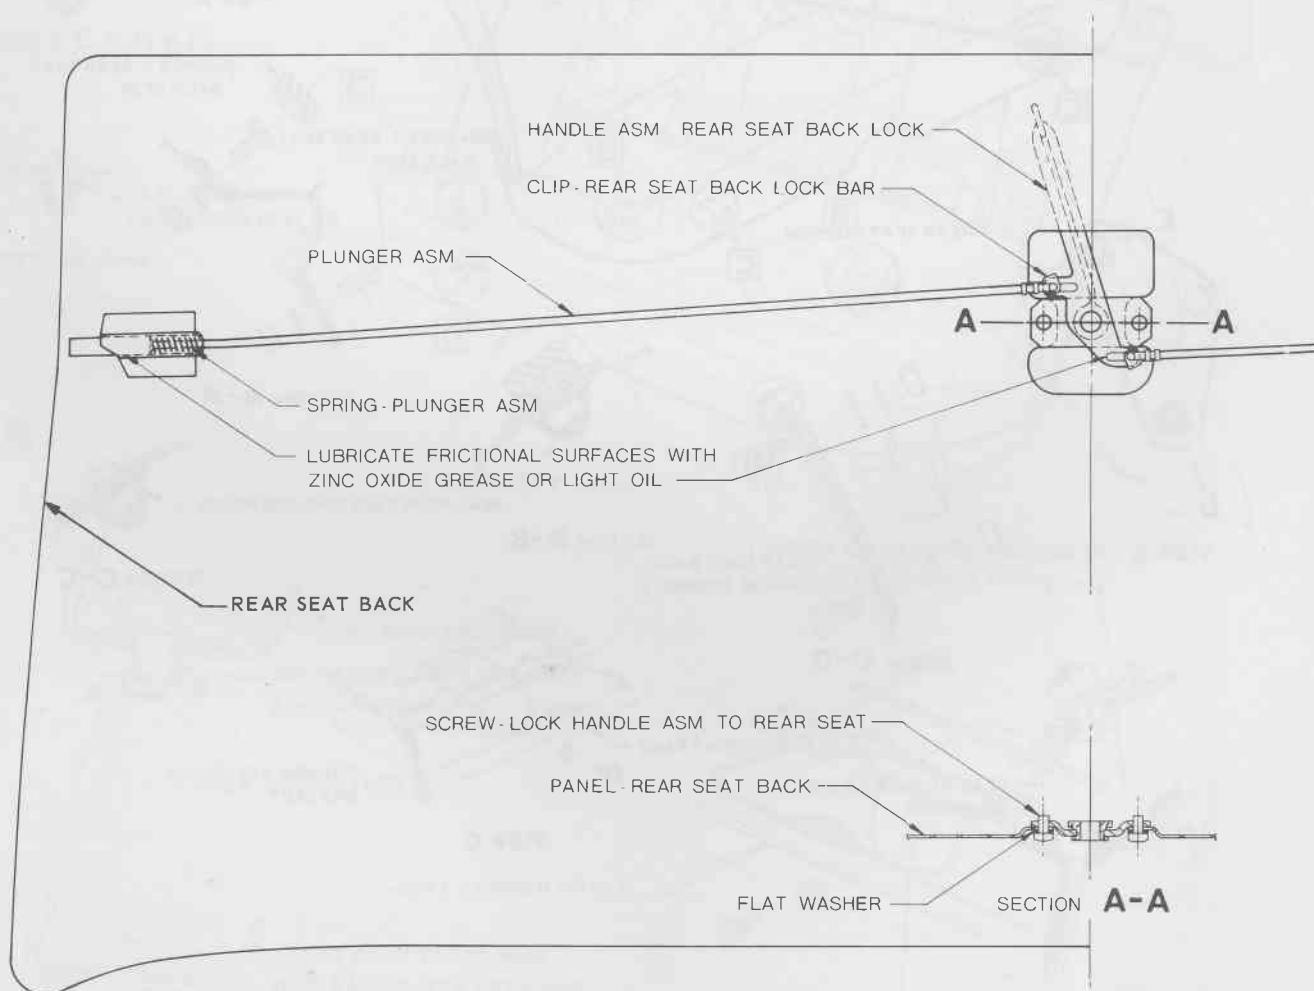

Fig. 8-8
3. Remove screws securing lock handle assembly to seat back (see Section A-A, Fig. 8-8).